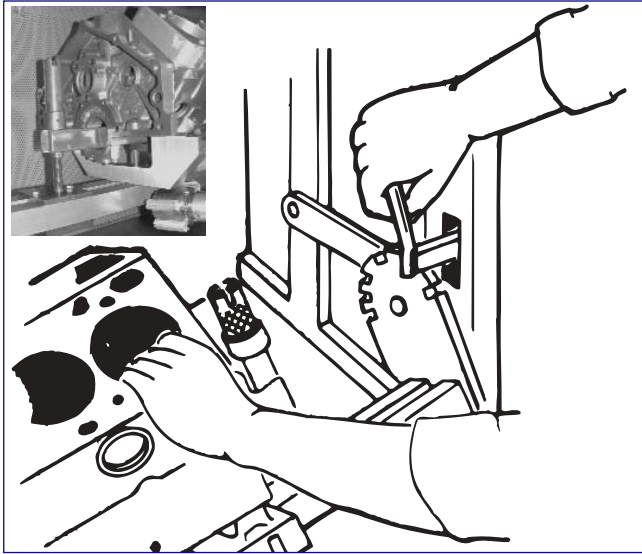

FIGURE 3-26, Rotate Cradle
9. If engine is of in-line type, it is now ready to be honed. If it is a V-Blocks, release cradle index latch at right end of Cradle, and rotate Cradle and engine block into position for honing (*see Figure 3-26*). First notch from center position is for 60° V-blocks; second notch is for 90° V-blocks. “V” Engine Blocks are now in a position to be honed.